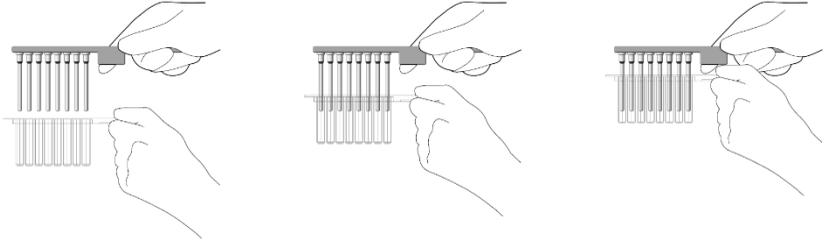

Figure 2. Attaching the rod cover.
6. Place the rod cover over the eight magnetic rods of the IndiMag Handheld as illustrated in Figure 2 below.
3. Pipet 20 μ l Proteinase K into the bottom of **column 1** and add 200 μ l sample (see Figure 2).